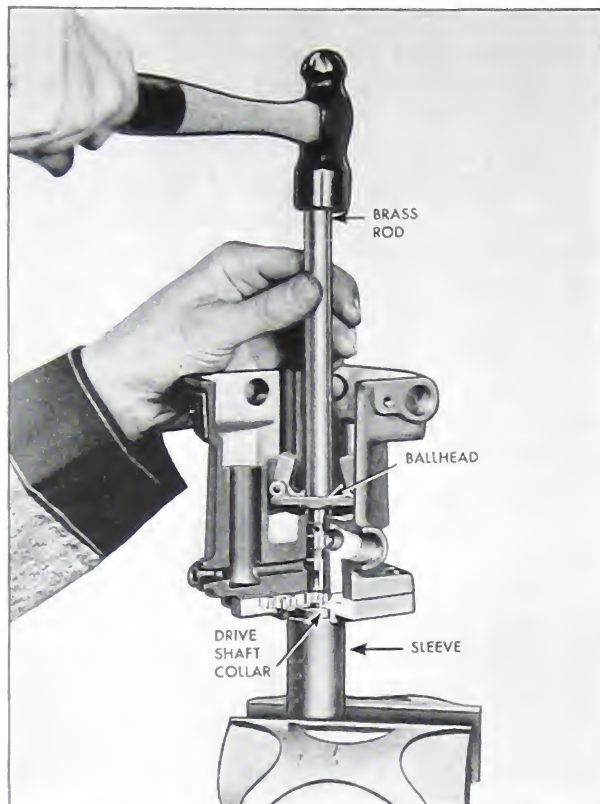

Fig. 5-128. Driving collar on drive shaft
8. Clamp sleeve in vise, place ballhead in governor, place drive shaft collar on drive shaft, and drive collar onto drive shaft with 7/16" brass rod as shown in Fig. 5-128.